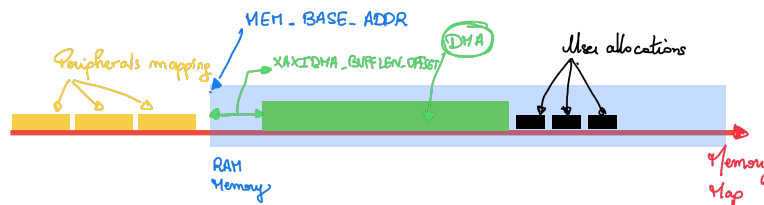

Figure 3.2: Memory mapping and DMA location
3. Write a function `populate_dma(ptr0, sig, size)` that copies an array `sig` at the location where it can be used by the I2S interface. We indeed work at another location and then copy the location of interest at the DMA location. An illustration of the memory mapping is presented on Figure 3.2. Two (very) important remarks